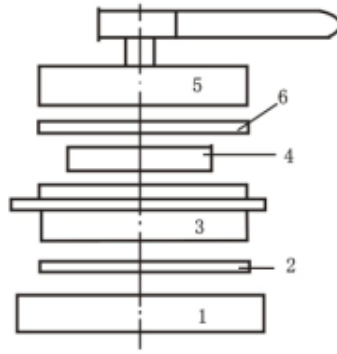

Figure 3
- 5) Measurement of powder samples(see figure 3), clean the power powder box with a clean brush, put some ground glass(2) into the press cover (1), revolve the powder plate(3) tightly, put the being measured sample into the powder box and move the extra powder which is above level, set the press piece(4), revolve the powder presser(5), revolve the handle clockwise, the sample is considered to be tightly pressed after the appearance of "TATA" sound, after that, revolve the handle anticlockwise by 720°, revolve the powder presser out and take out the press piece. Cover the plastic bottom cover(6), turn the powder box, revolve the press cover off, uncover the ground glass, put the powder box into the sample hole, press test, the whiteness value of the object will be displayed in 3 seconds.